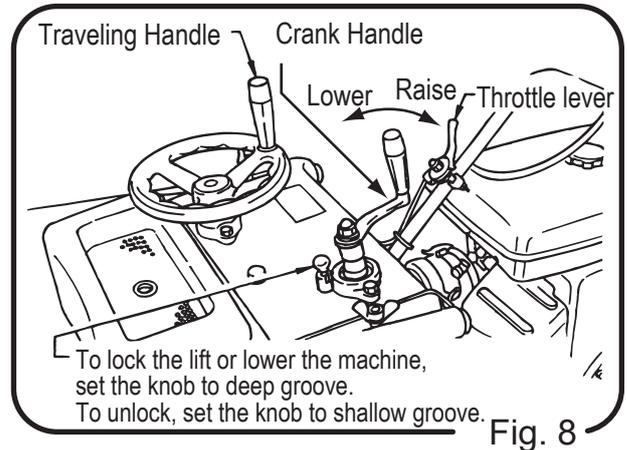

Fig. 8
### 7.10. How to lift or lower the machine: (Fig. 8)
- 8.2.2. Move the speed control lever slowly to the normal operation and set the engine speed at high speed. (Fig. 8)
- 8.2.4. To cut-in with the blade at the bottom, turn Crank handle to the counter clockwise, and cut down while adjustment the lowering speed so that engine speed is not reduced excessively. After cutting down, set the knob to the lock position which located beside of Crank handle to lock the machine. (Fig. 8)